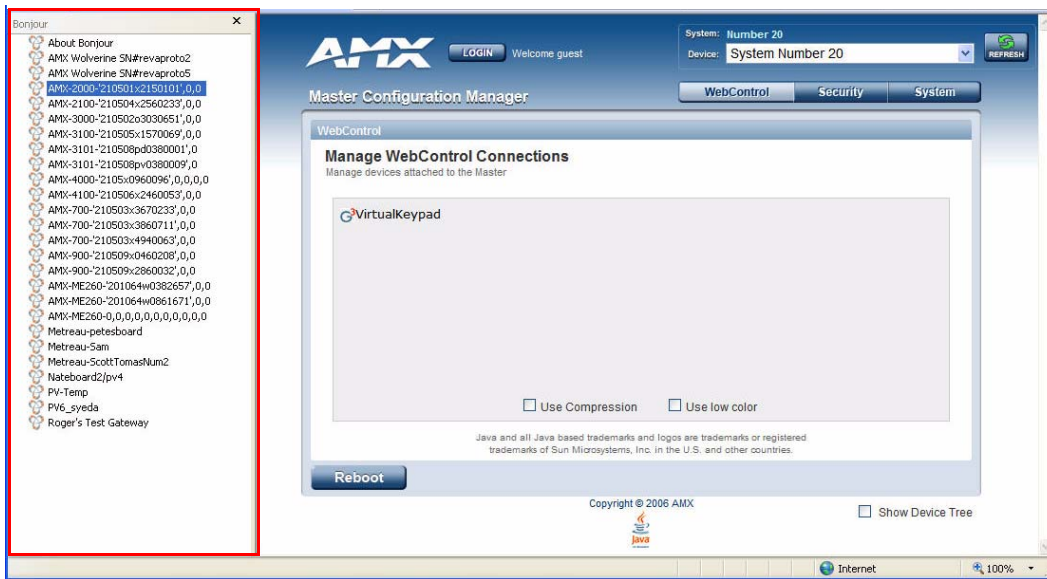

FIG. 1 Internet Explorer with Bonjour plug-in
2. Once power is applied to the device, the Bonjour plug-in displays the device in the list of devices as shown in FIG. 1: